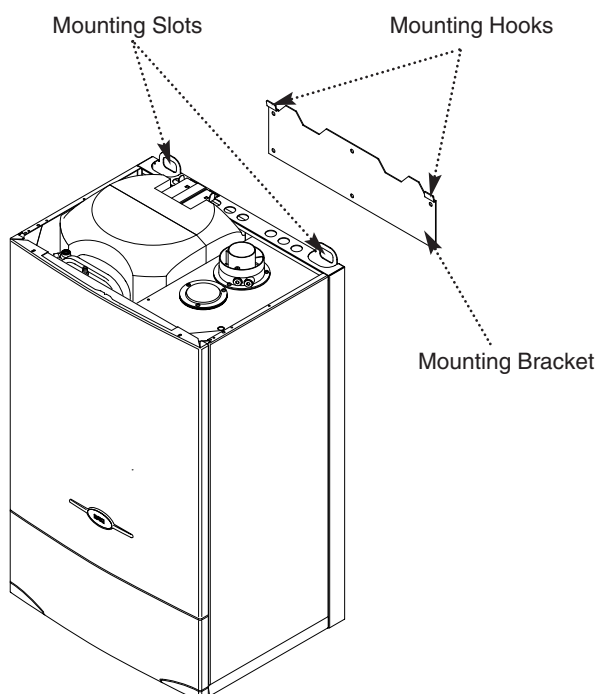

Fig. 22
8. Lift the boiler and locate the slots in the upper chassis over the hooks on the mounting bracket (Fig. 22).